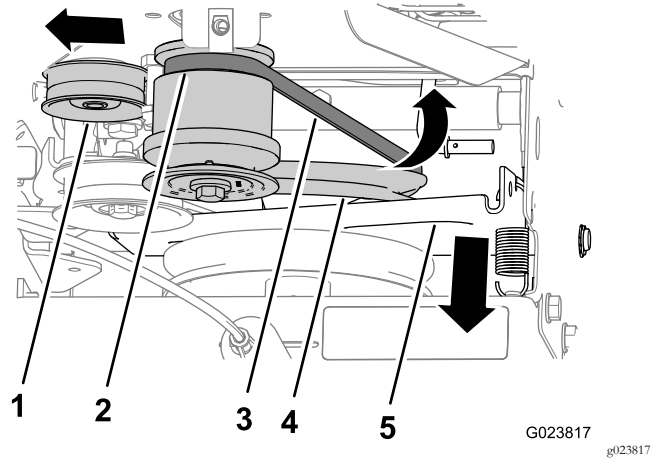

Figure 42
- Pivot the traction-control bracket and traction pulley forward (Figure 42).
- Pull the tension pulley outward (Figure 42).
- Slip the belt off the rear groove of the engine pulley and remove the belt from the machine (Figure 42).
2. Align the belt into the groove at the bottom of the traction pulley (Figure 42).
3. Pull the tension pulley outward (Figure 42).
4. Align the belt into the rear groove of the engine pulley (Figure 42).